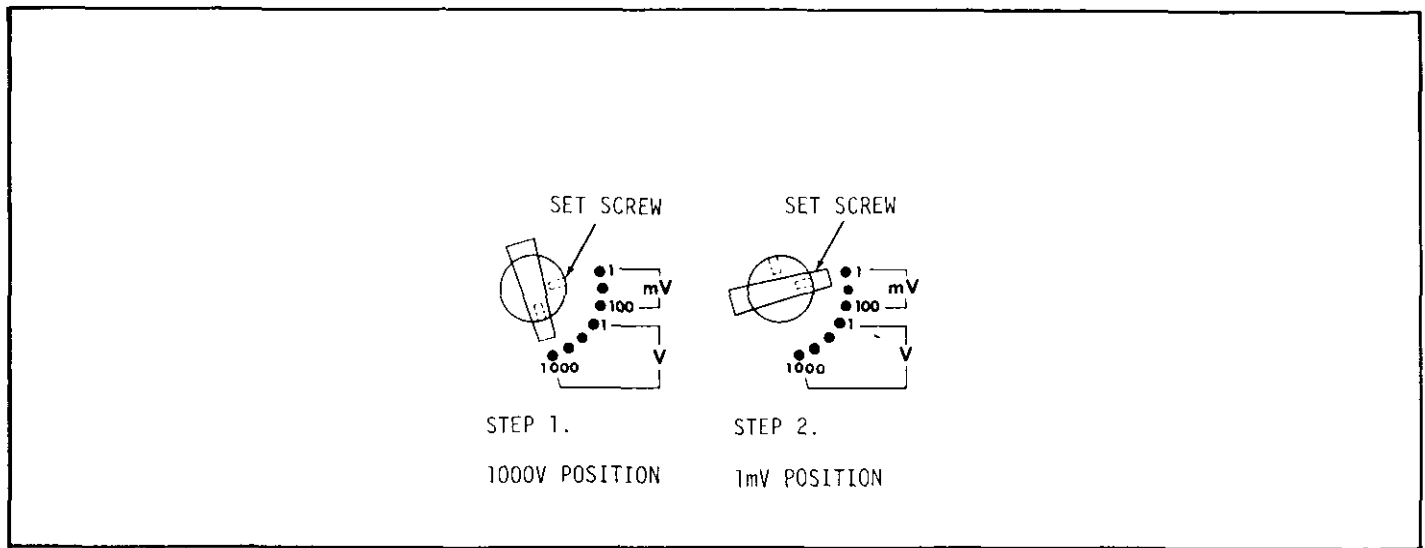
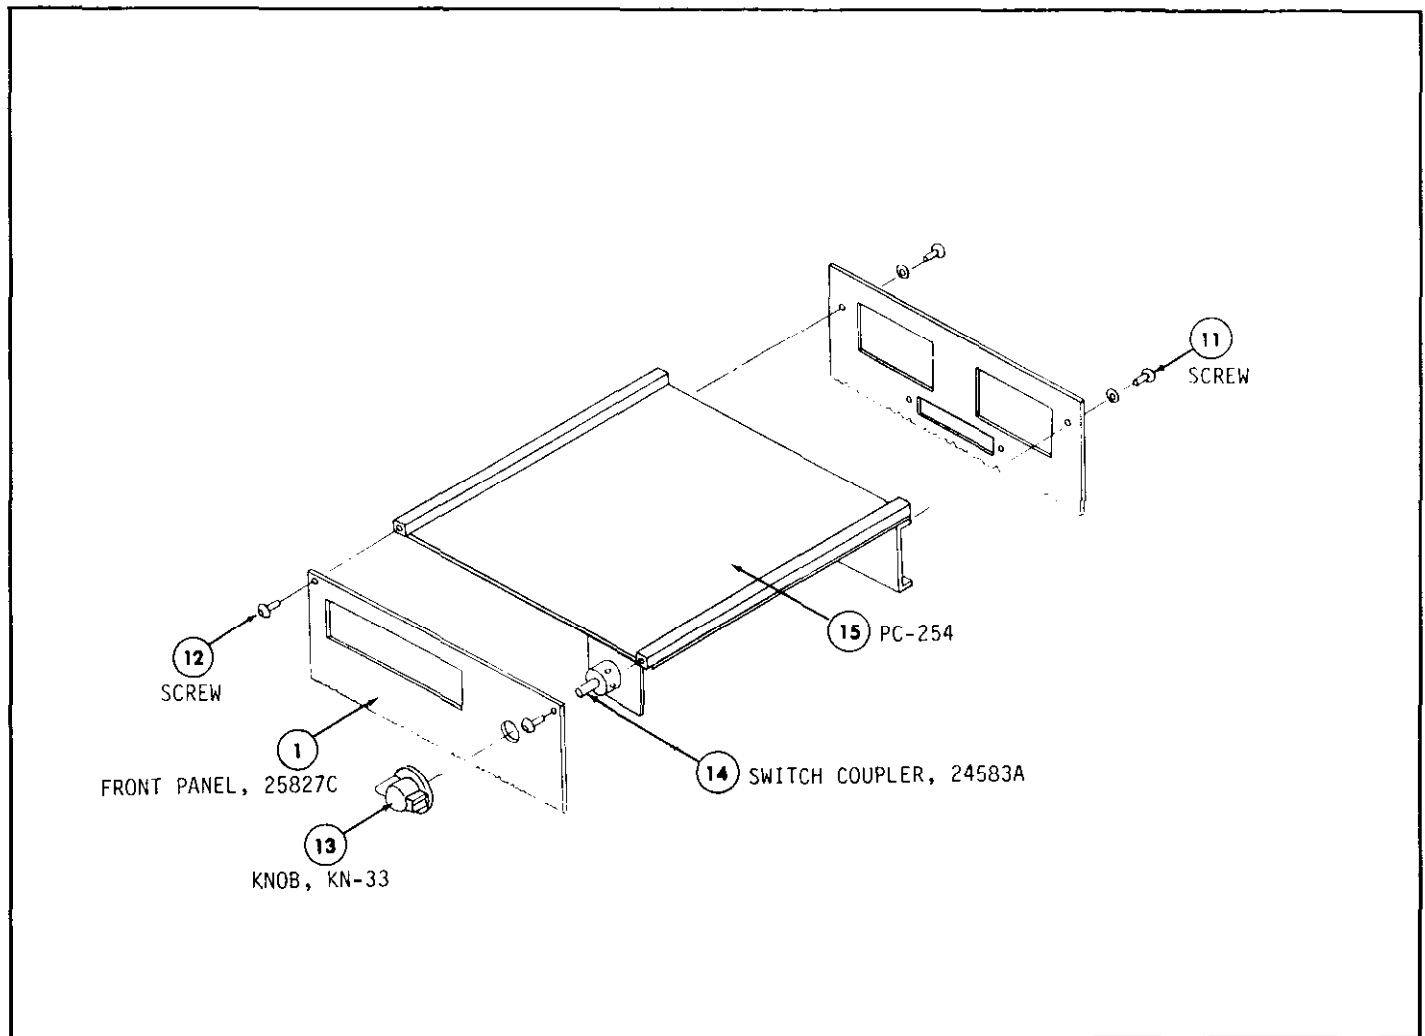

FIGURE 13. RANGE Knob Assembly.
FIGURE 14. Chassis Assembly.
1. Remove the front panel Range knob assembly as shown in Figure 14. Loosen the two set screws holding the switch coupler to the switch shaft using a 1/16 hex size (Allen Head) screw driver. Figure 13 shows the proper orientation of the Range knob for reassembly.
2. Remove the front panel Allen Head screws in two places as shown in Figure 14 using a 3/32 hex size screw driver.
3. Remove the rear panel Phillips head screws in two places as shown in Figure 14.